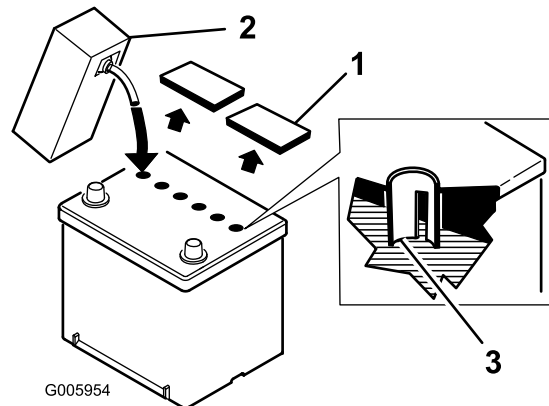

Figure 3
4. Clean the top of the battery and remove the vent caps (Figure 3).
5. Slowly pour electrolyte into each battery cell until the level is up to the **lower** part of the tube (Figure 3).
8. Slowly pour electrolyte into each cell until the level is once again up to the **lower** part of the tube (Figure 3) and install the vent caps.